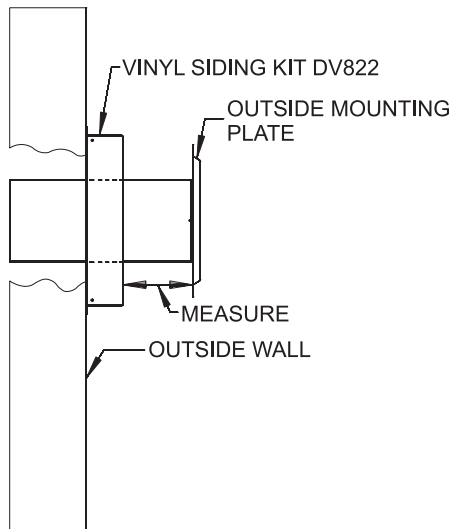

Figure 52
6. With the vinyl siding kit installed to wall (if necessary), insert the 6 5/8" (168 mm) diameter tube with outside mounting plate attached through hole in wall. Connect to collar on fireplace or rigid vent system. Measure between wall or vent cap extension and outside mounting plate. **See Figures 52 and 53.**